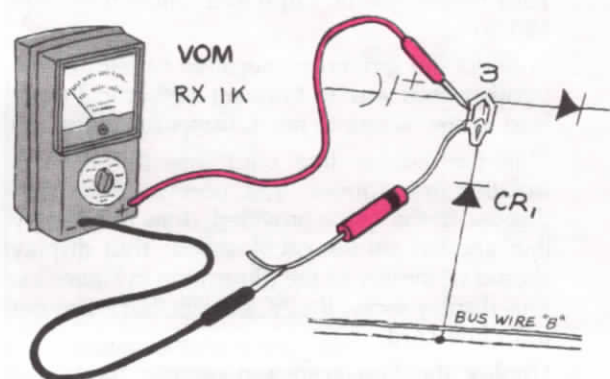

FIG. 20
- d. Reverse the meter leads so that the positive (+) meter lead connects to the cathode (pin 3) and the negative (-) meter lead connects to the anode lead of CR1. (Refer to Figure 20.) Record your resistance reading: _____. Your reading should be infinite or in the high meg-ohm range, as now, the diode is not passing current or is non-conducting. This proves that current will flow in only one direction (from cathode to anode) through a diode.